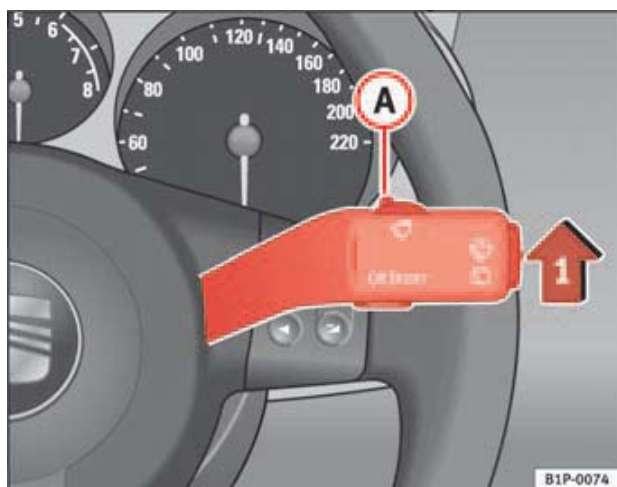

Fig. 83 Windscreen wiper lever
- Move the windscreen wiper lever into position ① ⇒ fig. 83.